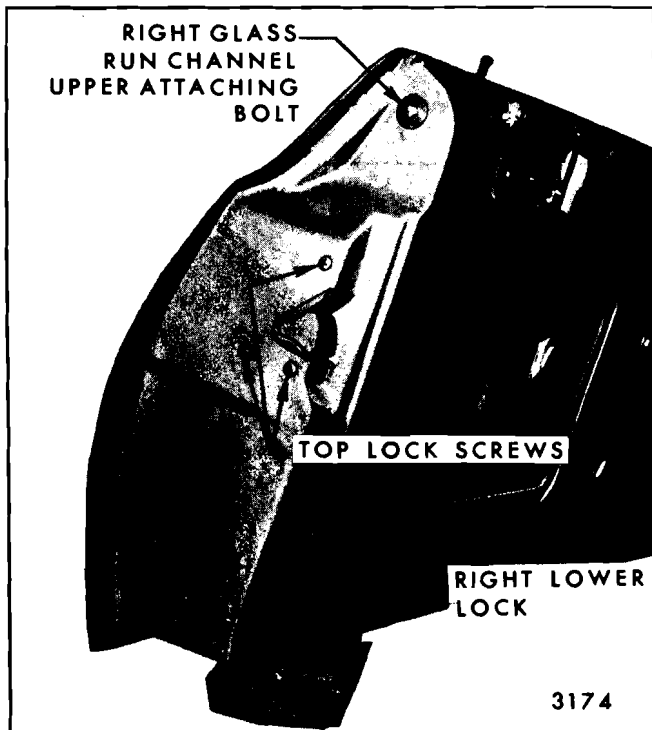

Fig. 9-30—Dual Tail Gate Lock Attachments - Right Side
3. Scribe (mark) lower lock position on tail gate. From underside of tail gate, remove lower lock attaching nuts and screws and remove assembly from tail gate (Fig. 9-30).